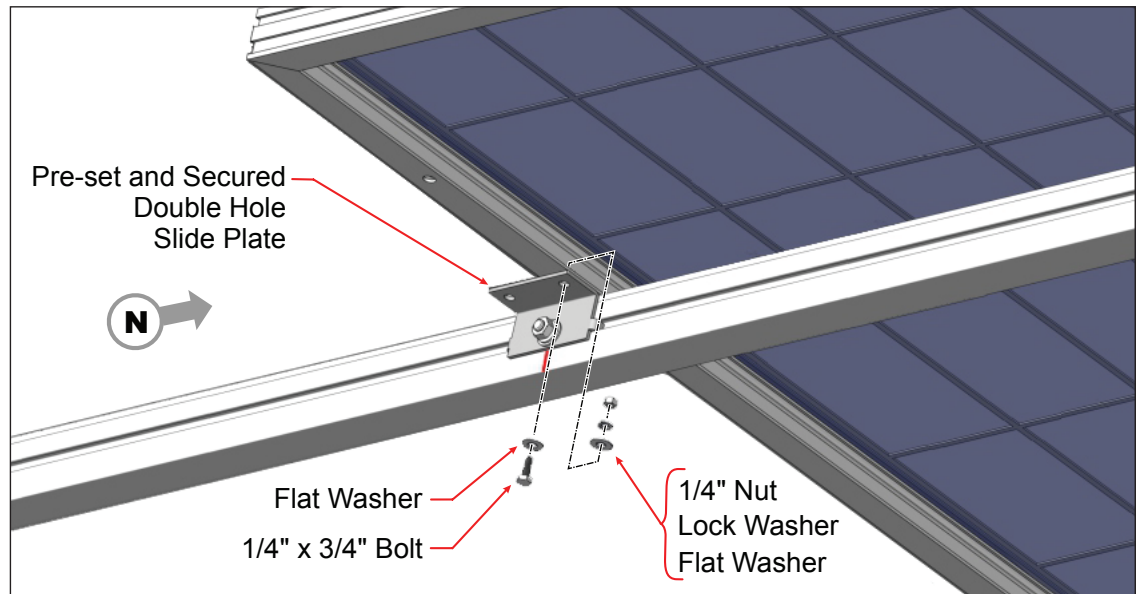

Figure 7-1: Installing first row of PV Modules to the Double Hole Slide Plates
- Position the Cross-Bar to the outside of the Strongback mounting angle (see Figure 7-1). Align the mounting holes and secure using 3/8" flat and square washers along with the 3/8" x 3-1/4" bolts and lock washer placing the square flat washer against the Cross-Bar. Tighten hardware and torque to 30-32 ft./lbs. (See Figure 5-2)
- A. Starting with the Northern row, align one of the PV Modules to a set of the secured Double Hole Slide Plates mounting holes. Secure with 1/4" x 3/4" bolts and hardware. Finger-tighten for now. (See Figure 7-1)